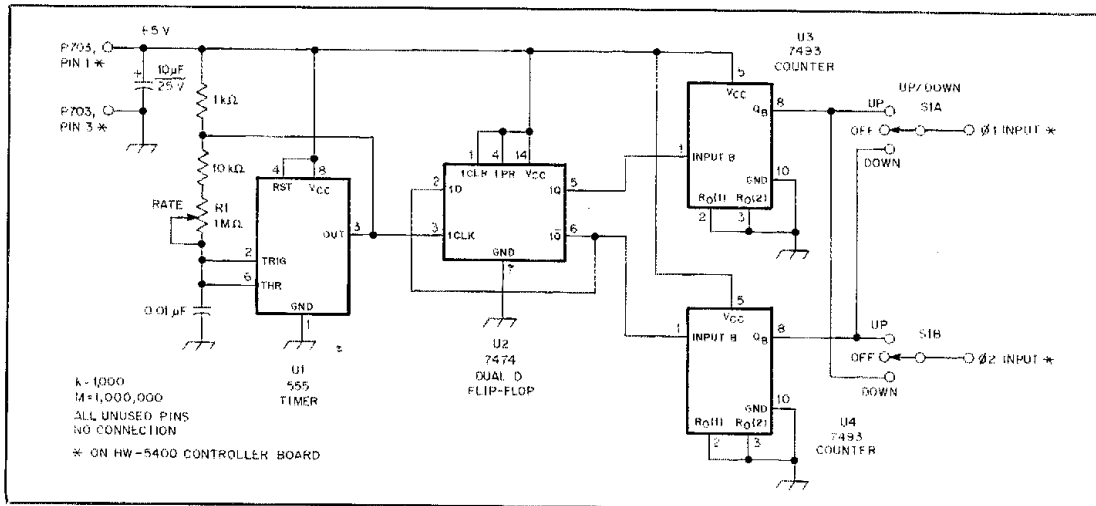

Fig 3—Dexter King's Speedy Tune circuit adds up/down frequency slewing to the Heath HW-5400 transceiver. R1 allows adjustment of the slewing rate.
Fig 3—Spectral display of the ICOM IC-761 during two-tone intermodulation distortion (IMD) testing. Third-order products are approximately 37 dB below PEP output, and fifth-order products are approximately 45 dB down. Vertical divisions are each 10 dB; horizontal divisions are each 2 kHz. The transceiver was being operated at 100 W PEP output on 14 MHz.
ly one of the cleanest new rigs available (see Fig 2). This can be attributed to proper filtering and five relatively low-gain stages in the transmit amplifier chain. Of course, there is no need to tune up the '761—just set drive level and audio gain (if applicable) and you're ready to go. Fig 3 shows the transmit audio during two-tone testing.
□ After working a major SSB/CW contest with my Heath HW-5400 transceiver, I realized that I need a faster and easier method of changing frequency than that allowed by the stock '5400. The circuit shown in Fig 3 is my solution to this problem. Dubbed the Speedy Tune, it provides rapid up/down frequency slewing and is controllable by a momentary, DPDT, center-off toggle switch. The Speedy Tune is easy to build and does not affect the '5400's manual tuning.